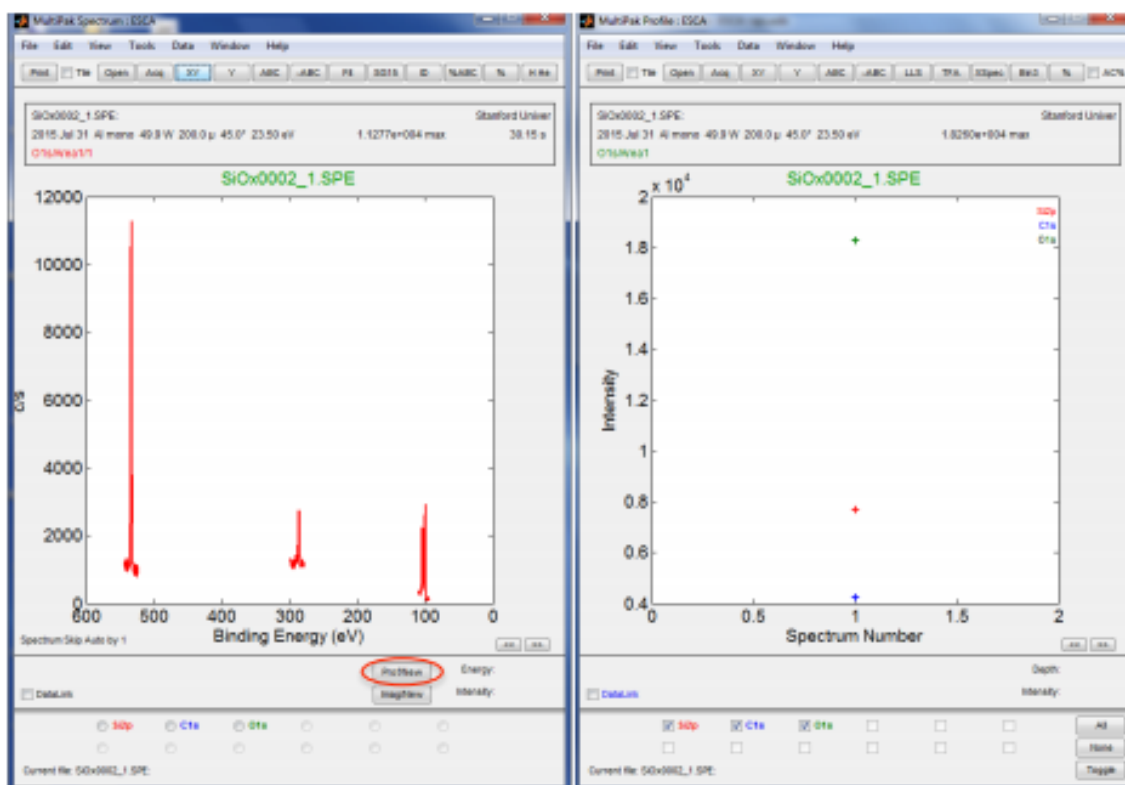

FIG 18: Profile/New Button creates a new Profile window.
1. **Open (1)** or **Acq (2)** desired spectrum.
4. Press **Prof/New** at the bottom of the Spectrum window to send intensity data for each element to the Profile window at the right (**FIGs 18, 19**).